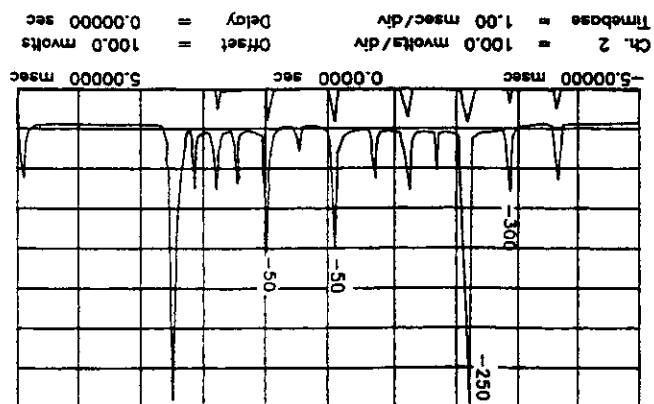

Figure 5-18. Frequency Response of Notch Filters, 965 MHz Setting.
13. Set the Signal Generator frequency to 965 MHz and observe the oscilloscope Chan 2 display. The beat note levels should resemble those shown in Figure 5-18. (the 50 MHz beatnotes are shown with nonadjusted levels.) Adjust A4L39 (50 MHz Notch Filter) until the 50 MHz beat notes are at their minimum amplitude. Adjust A4C75 to maximize the 250 MHz signal while keeping the 300 MHz signal at minimum.